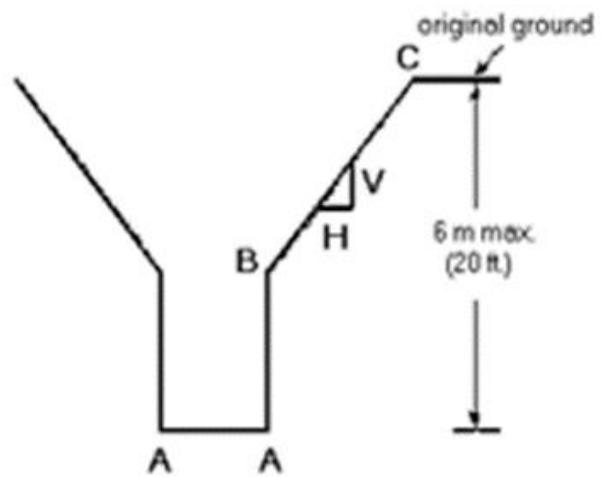

Figure 24-1: Sloping in Lieu of Shoring
- a. Sloped at angles, dependent on soil conditions, which will ensure stable faces, but in no case may the slope or combination of vertical cut and sloping exceed that shown in Figure 24-1 as found in Alberta Workers Compensation Board OHS Regulation;